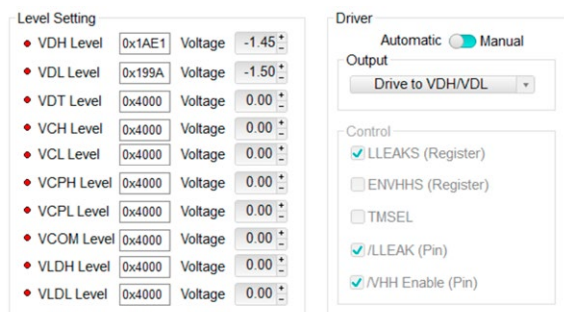

Figure 7. DAC-level setup of the MAX9979 using the eval board software.
- ▶ Apply the DAC voltage levels and driver settings as shown in Figure 7. Note that the VDH DAC lowest recommended value is -1.5 V, the highest recommended value is 4.5 V, while the zero-offset point value is at 1.5 V.